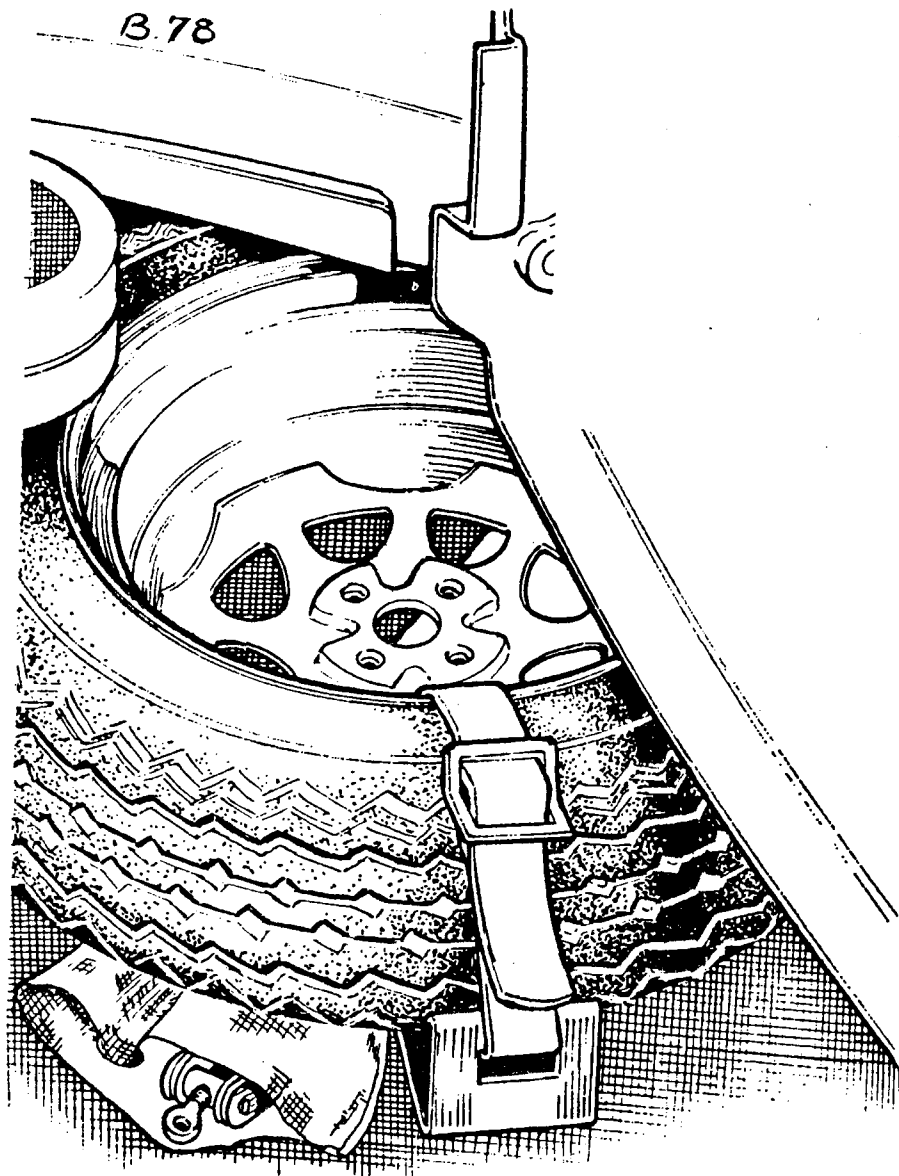

Fig. 13. Spare wheel location
**ALWAYS** strap the jack in its correct location (see Fig. 13). If stored on the floor it could, in certain circumstances (such as cornering hard), puncture or craze the fibreglass side of the body.
This is located in the radiator compartment below the front bonnet (hood), the strap which holds the wheel in position also holds the jack and tool kit roll, as shown in Fig. 13.